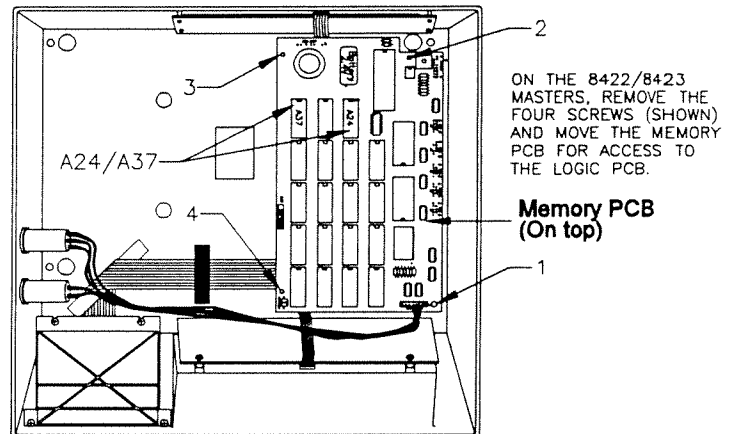

Figure 8.3 Master Top Cover
- 8.1.4 **Masters:** To replace the Master Memory PCB, disconnect any harnesses to the Master Memory PCB and remove the four Phillips screws. The Master Memory PCB can then be removed. Move the EPROM's from locations A24/A37 on the old PCB to the new PCB. (Figure 8.3.)